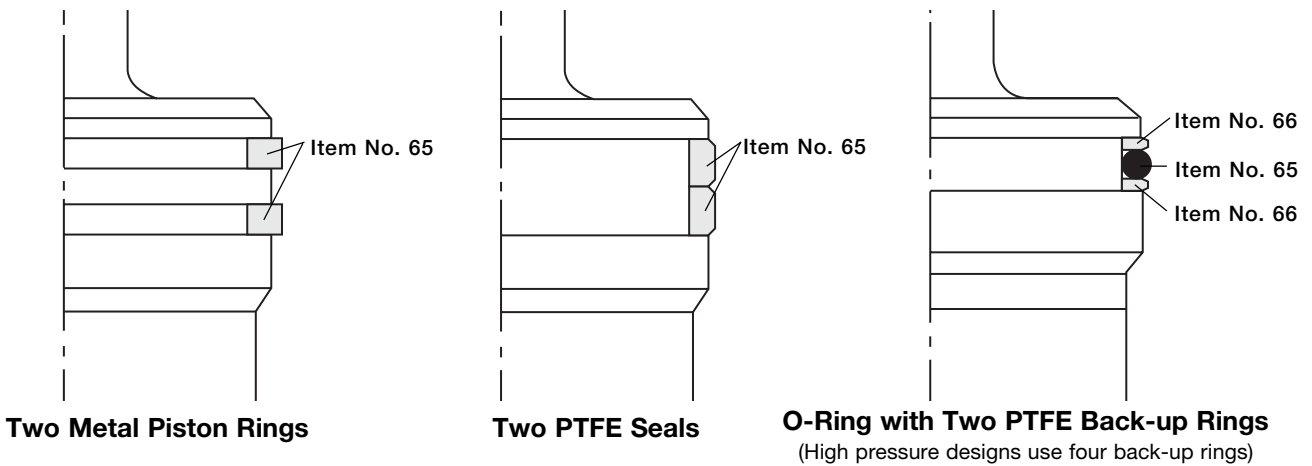

Figure 1: Plug Seal Configurations
An important part of the trim is the sliding plug seal, which determines to a large extent the leakage rate of the valve under shutoff conditions. Four types of plug seals are available: PTFE, metal piston ring, O-ring, and O-ring with PTFE back-up rings (see Figure 1).
3. To replace the plug seals on the plug, refer to Figure 1 and observe the following directions: